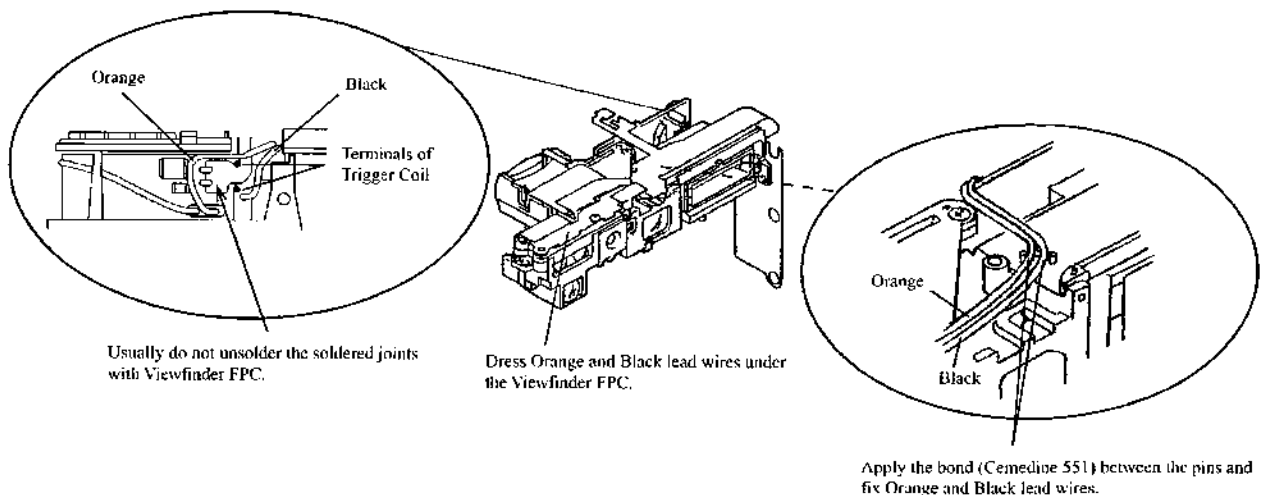

Fig.9
- b) When the Viewfinder Base Ass'y has been replaced with a new one, dress the Orange and Black lead wires under the Viewfinder FPC and fix them with the bond (Cemedine 551). (See Fig. 9)
- c) Since the soldering space on the Flash Trigger P.C. Board is small, the soldered joint of the Orange lead wire may come in contact with a terminal of the Trigger Coil and throw sparks, depending on the soldering direction of the Orange lead wire. To avoid such a trouble, pay attention to the soldering direction by referring to Fig. 9.